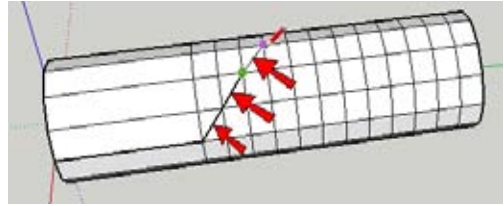

Figure 2-95
- Now draw the 12 short segments for the spiral. Starting from the end of the long segment you just traced, draw diagonals, one by one, in the small faces (Figure 2-95).